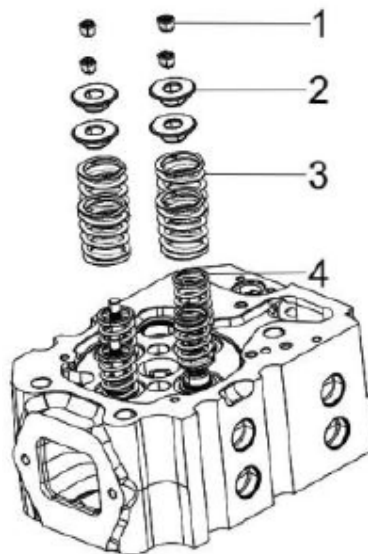

Figure 72. Valve Spring Assembly.
5. Place the cylinder head on the workbench with the combustion side down to install the valve springs. Install the valve springs (Figure 72, 3 & 4) and the spring retainers (Figure 72, 2).
6. Insert the valve collets (Figure 72, 1) and slowly release the tension on the valve spring.